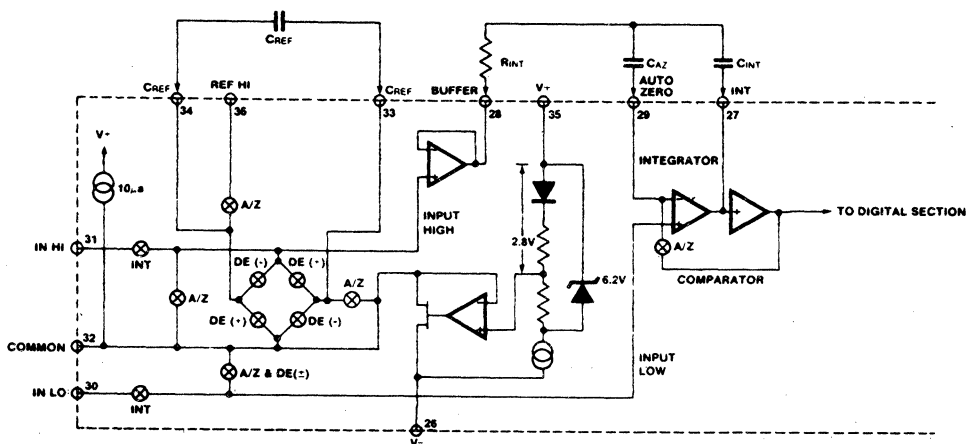
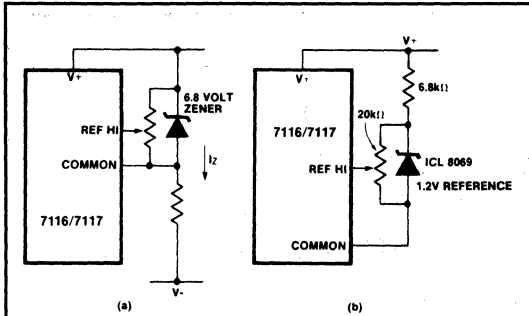

Figure 4: Analog Section of 7116/7117
Figure 5: Using an External Reference
- Unless otherwise noted, specifications apply to both the 7116 and 7117 at  $T_A = 25^\circ C$ ,  $f_{clock} = 48kHz$ . 7116 is tested in the circuit of Figure 4. 7117 is tested in the circuit of Figure 5.
Figure 4 shows the Analog Section for the ICL7116 and 7117. Each measurement cycle is divided into three phases. They are (1) auto-zero (A/Z), (2) signal integrate (INT) and (3) de-integrate (DE).
The 7116, with its negligible dissipation, suffers from none of these problems. In either case, an external reference can easily be added, as shown in Figure 5.